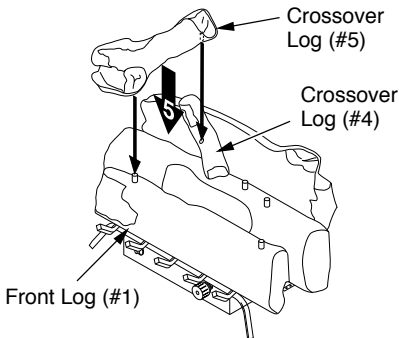

Figure 28 - Installing Crossover Log #5 (CCL3930PTB/NTB Shown)
5. For **CCL3924PTA/NTA** and **CCL3930PTB/NTB** Only: Locate pin and hole on the bottom of crossover log (#5). Slide the pin into the hole located in crossover log (#4). Slide the hole onto the pin on front log (#1). See Figure 28.